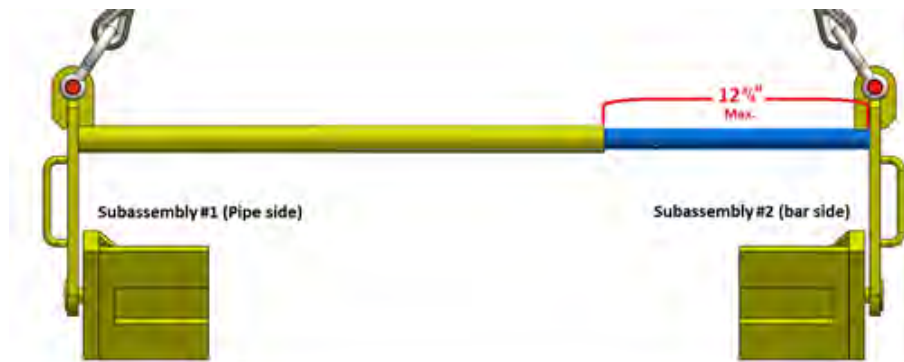

Fig.5. Maximum opening distance of the pipe with lifting load applied.
- The telescopic bar closes, holding the shoe on the main grouser, so that the lateral profiles of this make contact with the bottom of the grips. For the master link disassembly process, this must be done before completely losing the bolts. It is important to check for safety that the telescopic bar is not up to 12 3/4" out of the pipe (See Fig. 5) during the lifting operation. This distance is identified and marked on the bar.